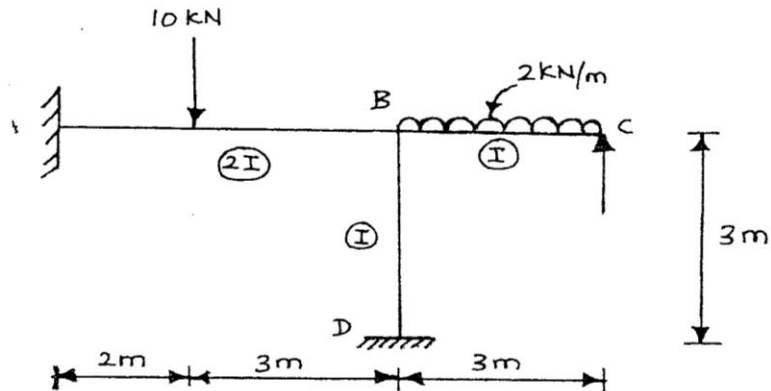

Figure -4
10. Analyse the frame shown in figure-4 by moment distribution method and draw BMD.